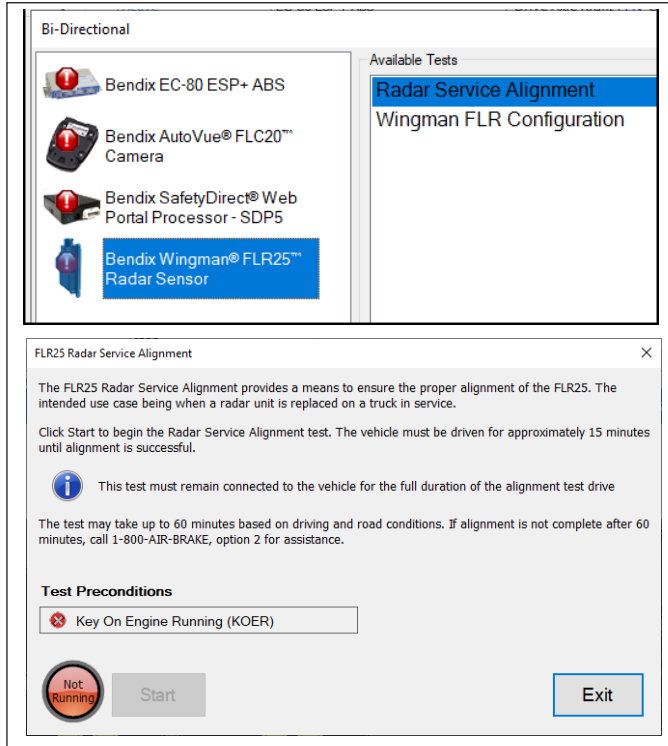

Figure 7 – Bendix® ACom® PRO™ Radar Service Alignment
2. Select “Start” to begin the radar service alignment test. See Figure 7.